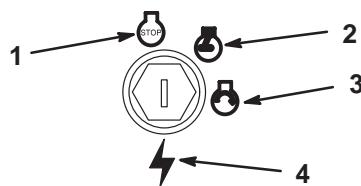

Figure 8
6. Turn the ignition key to Start (Fig. 8) to energize the starter. When the engine starts, release the key.
3. Turn the ignition key to Off (Fig. 8).